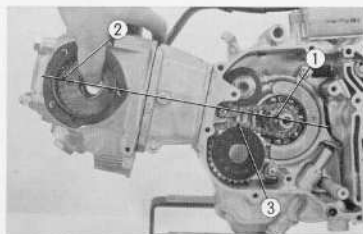

Fig. 3.40 Connecting the cam chain
- Position the crankshaft so that the woodruff key ① is on the cylinder centerline and in the direction of the cylinder head. Align the "O" mark ② on the cam sprocket to the index mark on the cylinder head (the sprocket mounting bolt holes will be in line with the cylinder centerline) and then connect the cam chain ③. (Fig. 3.40)
- Slide the camshaft ① into the cylinder head through the sprocket ② with the pin hole toward the head cover.